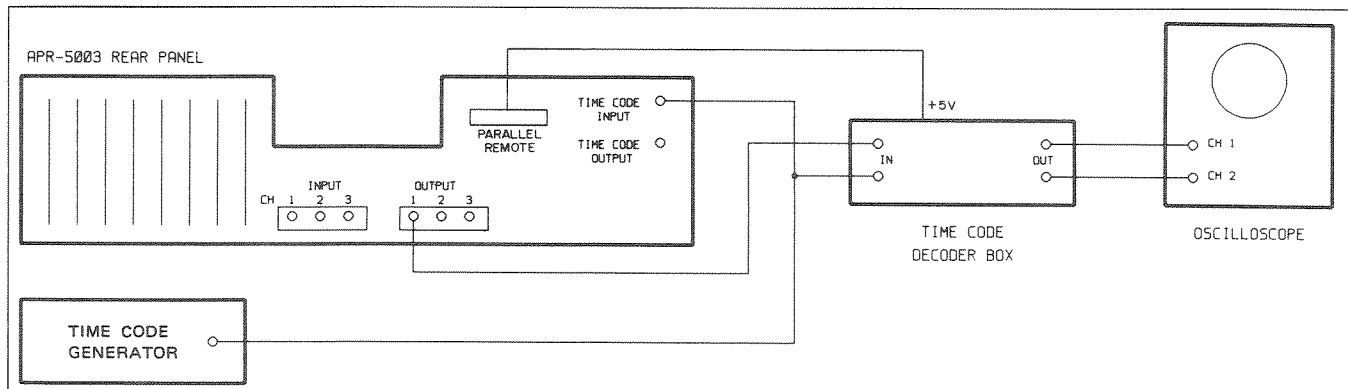

Figure 4-3. Longitudinal Offset Test Connections
STEP 1 Connect the equipment as illustrated in Figure 4-3. Set the Time Code Generator to OFF. On the Oscilloscope, set Channel 1 for normal operation, Channel 2 for inverted operation, and the function switch for an algebraic sum display.